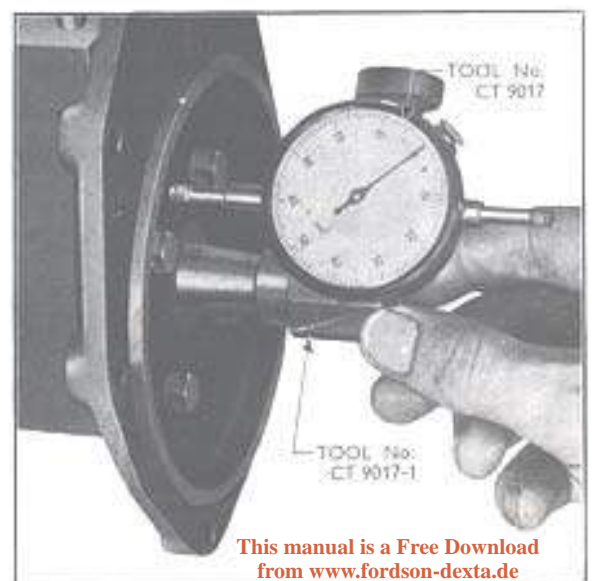

Fig. 17
6. Using the adapter (tool No. CT.9017-1) and a dial indicator gauge (CT.9017), check the camshaft end-float (see Fig. 17). This should be between .002 to .006 in. (.051 to .152 mm.). Shims .004 to .008 in. (.1 to .2 mm.) thick are available for correcting end-float.